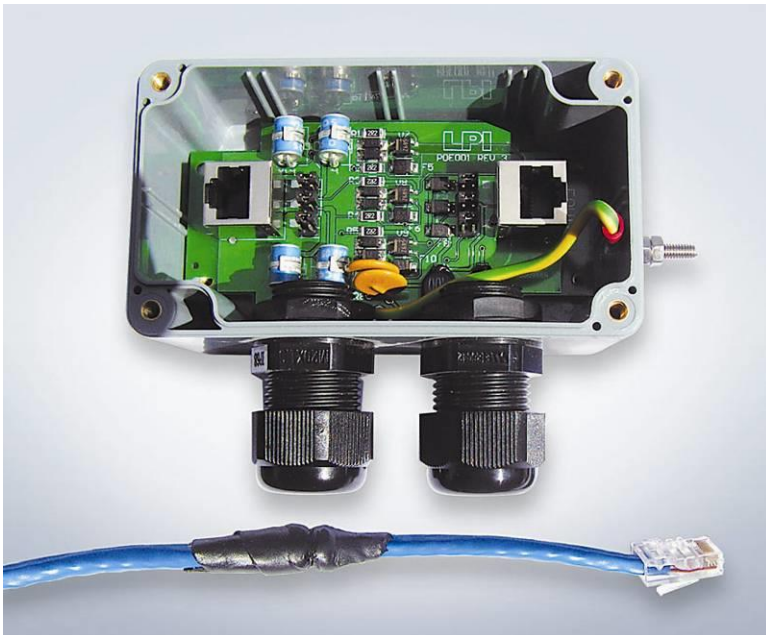

Figure 1
2. Apply one section of the supplied self-amalgamating tape to the cables in the position shown in Figure 1, approximately 110 mm from the end of the connector. This will ensure a water tight fit around the cable gland once the cable is installed in the protector.